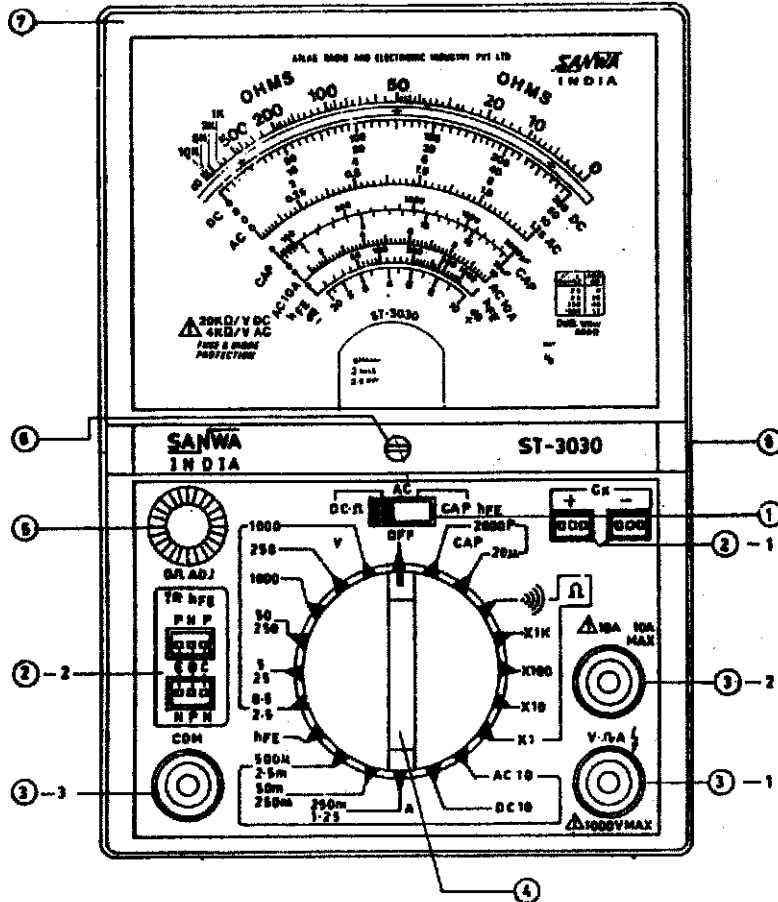

Fig. 36.1 : Multimeter
As you know multimeter is the most versatile and useful test and measuring device for a common technician and electronics student. Here we are concentrating on its principle and applications. You will recognise a multimeter as shown in fig. 36.1
- Similarly for *resistance measurement* the variable ranges are available in multiples of hundreds and thousands as shown in figure. 36.1